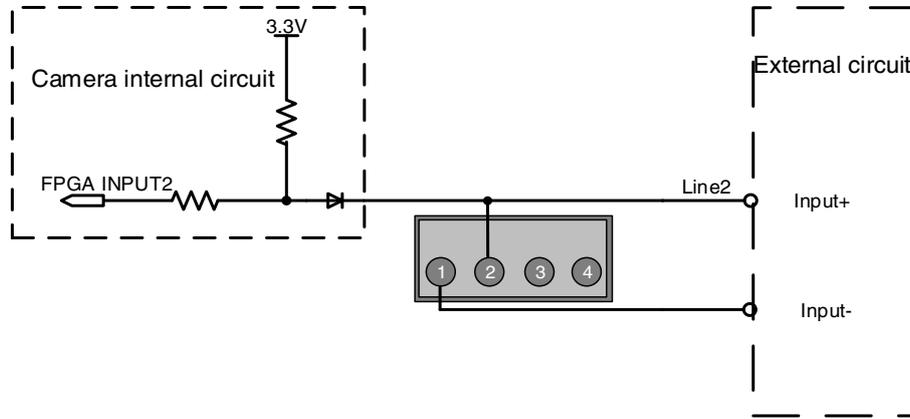

Figure 7-15 Internal equivalent circuit of camera when Line2/3 is configured as input
- When Line2/3 is configured as input, the internal equivalent circuit of camera is shown in Figure 7-15, take Line2 as an example